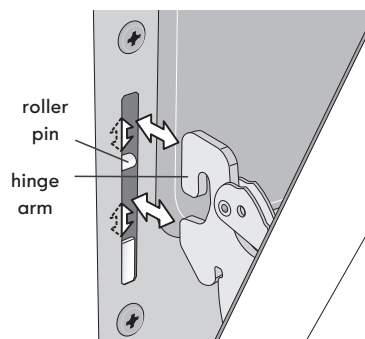

Figure 23: Hinge pin locations
2. Holding the oven door at the same angle as the removal position, seat the hook of the hinge arm over the roller pins located on each side of the oven door frame (See Figure 23). The hook of the hinge arms must be fully seated onto the roller pins.